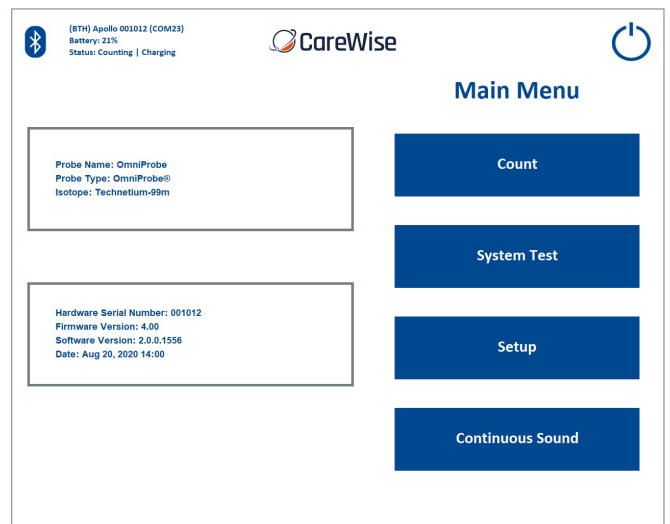
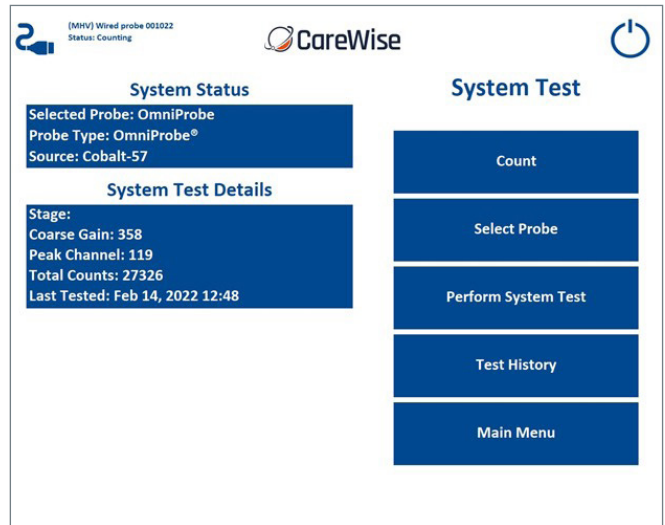

Figure 11 – Main Menu Screen
Figure 12a – System Test Screen.
- (7) **Toggle between manual and auto-range** – When the [AUTO] ranging option is selected, the software will automatically change the measurement range and associated sound pitch to the optimal setting for the quantity of radioactivity being detected at that point in time. The optimisation process typically takes no more than five seconds.
- (8) **Main Menu Button** – Pressing this button directs the user to the MAIN MENU [Figure 11], described in 2.4-6.
- (9) **System Shutdown**
- (10) **Probe Connection** – (see section 2.4-14).
The Main Menu [Figure 11], allows the user to navigate to the Count Screen (described in 2.4-1), System Test Screen (described in 2.4-7), and Setup Screen (described in 2.4-8), and also allows the user to change the audible count rate sound type and turn off the C-Trak® Apollo System’s power using the “Shutdown” power icon, (described in 2.4-13).
On the System Test Screen [Figure 12a], reached from the Main Menu [Figure 11], a user can calibrate and test all functionality of the Apollo system. When a user presses SYSTEM TEST, the Apollo system will both calibrate and test the system.